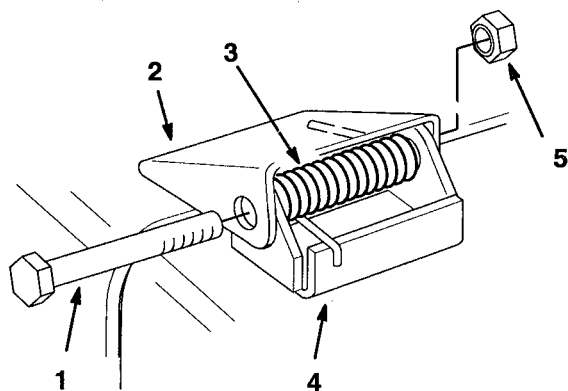

Figure 1
1. Install the deflector mounts onto the pivot brackets with the (2) 3/8–3-3/4" (95 mm) bolts, (2) springs and (2) 3/8" locknuts. Make sure the straight ends of the springs are positioned between the deflector mounts and the grass deflector (Fig. 1).
2. Tighten the locknuts until they contact the pivot brackets (Fig. 1).